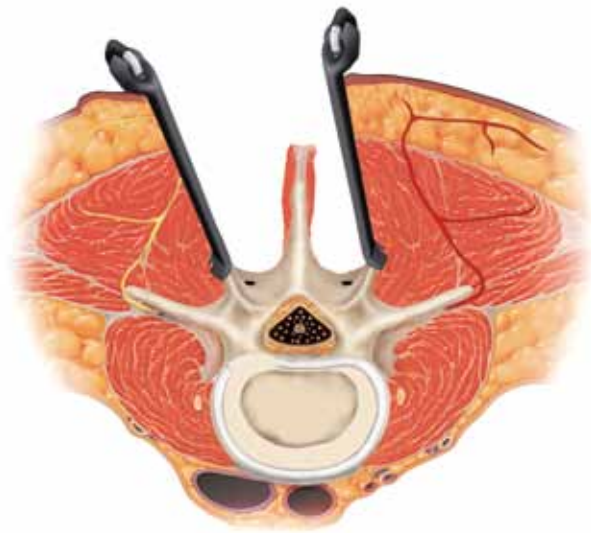

Figure 18
*Rotating the retractor frame/blades approximately 30° clockwise or counterclockwise will allow the surgeon to further drop their hand to obtain a more lateral-to-medial trajectory and aid contralateral disc space preparation and autogenous bone graft placement (**Figure 18**).*